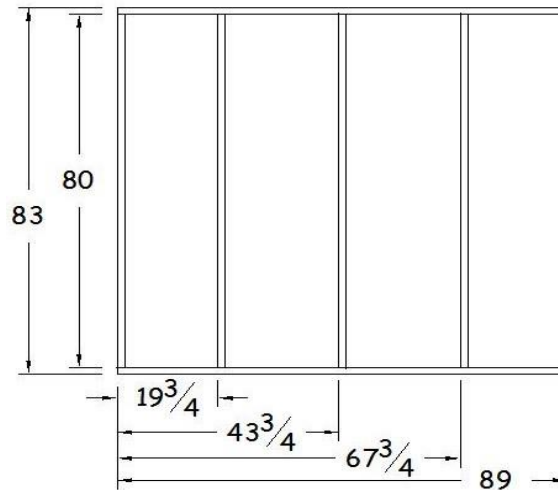

Figure 22-4. Back Wall Framing.
- a. Cut two pieces of 2x4 to 89" lengths. Pair them as upper and bottom plates and lay out stud locations on 24" centers as shown in Figure 22-4.